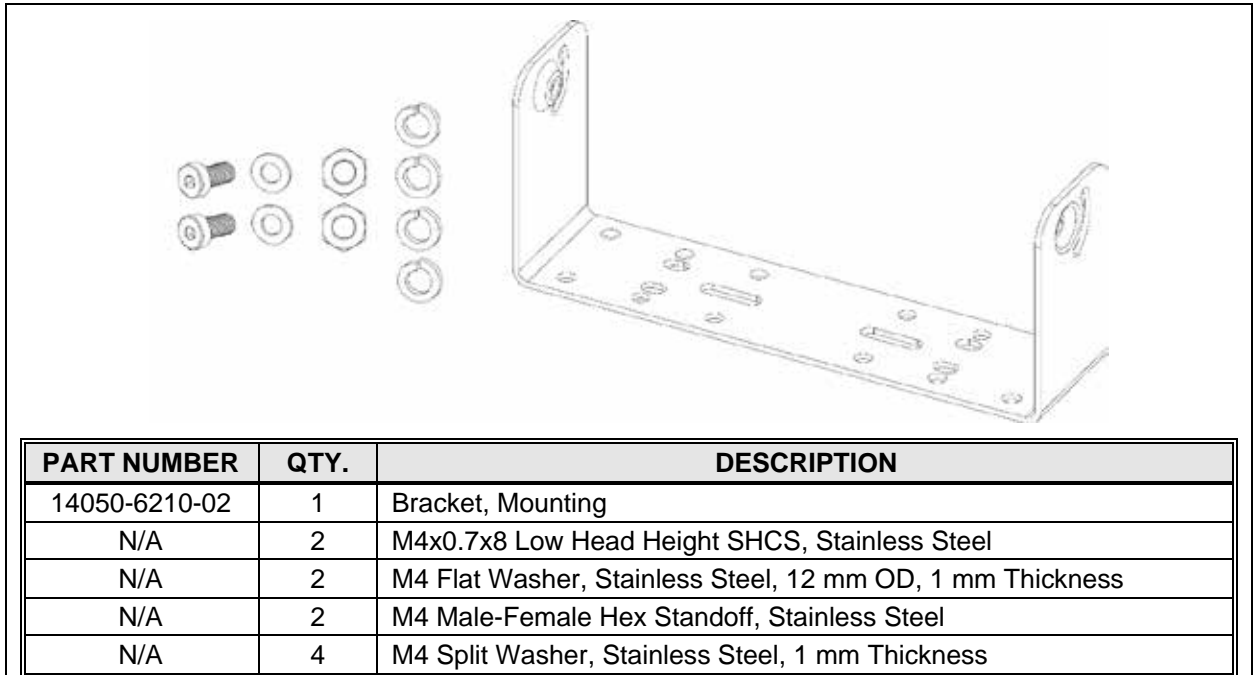

Figure 9-10: XL-CH Mounting Bracket Kit 14050-6210-01
1. Obtain the mounting bracket from the respective installation kit, as illustrated in Figure 9-10.